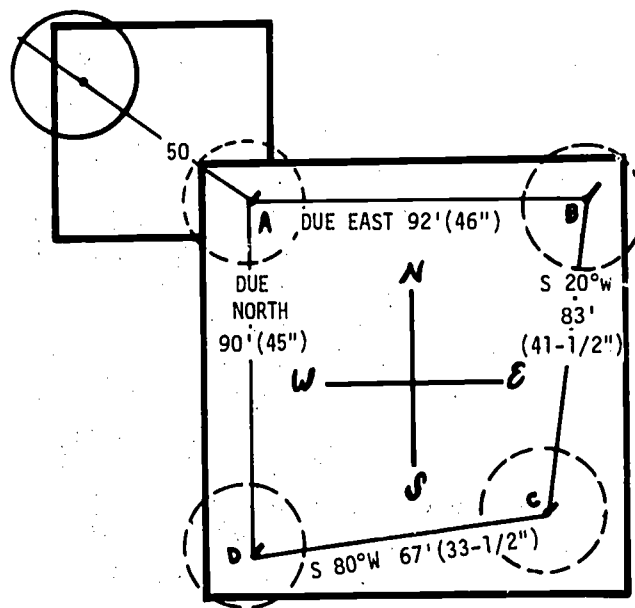

Fig. 11-4. Site Measurements
10. Extend a line S 50° E over to the 48" x 48" piece of plywood. Using the scale  $\frac{1}{2}" = 1'$ , measure along the scale 20' (10"). This is called point A. Drive a brad at this point. See Fig. 11-4.
12. Place the direction circle over point A, using a square to align it, and measure 46" due east. This is point B. Drive a brad at this point. See Fig. 11-4.
14. Place the direction circle over point B, using a square to align it, and measure 41½" in the direction S 20° W. This is point C. Drive a brad at this point. See Fig. 11-4.
16. Place the direction circle over point C, using a square to align it, and measure 33½" in the direction S 80° W. This is point D. Drive a brad at this point. See Fig. 11-4.
18. Place the direction circle over point D, again using the square. If the directions were followed accurately, the distance from D to A should be about 45". See Fig. 11-4.
19. With a string, connect points A, B, C, and D. See Fig. 11-4.